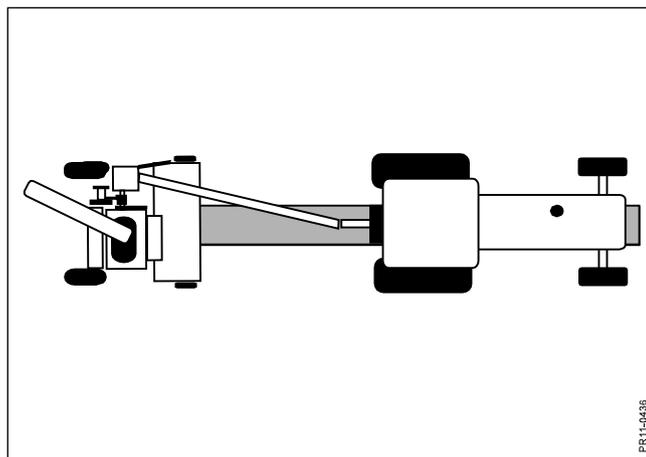

Fig. 6-11
- Fig. 6-11** 3) Here the chopper works in-line as the tractor drives over the swath. This technique is of course very suitable for picking up single swaths as you avoid driving on the crop. The technique is still suitable for side loading to both sides and brings the tractors close to each other.
**CAUTION:** The PTO shaft should work with a deviation of maximum 20°. For sharp turns to the right it is therefore recommended that the drawbar is moved to transport position or a position corresponding to working in-line (see Fig. 6-11.)